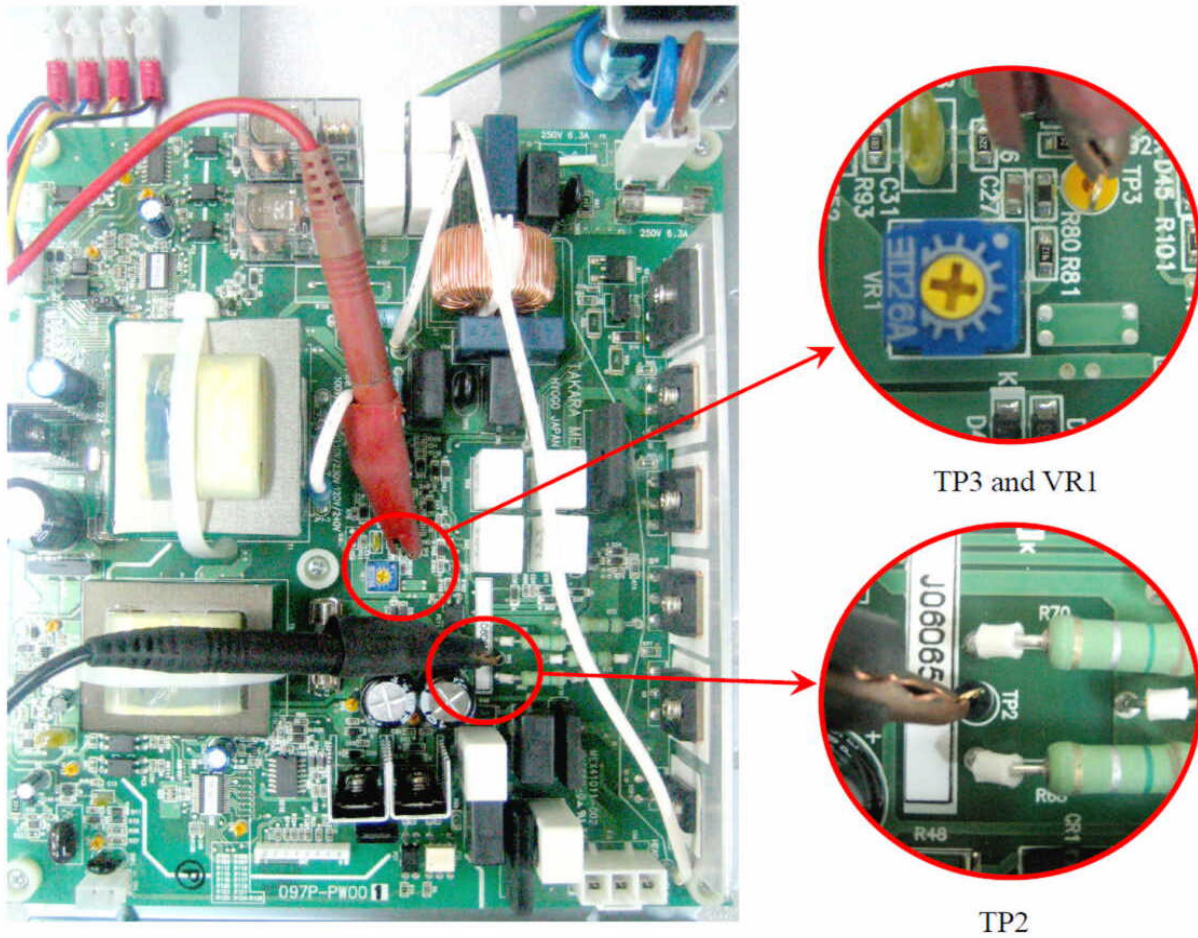

FIGURE 4B. TP2, TP3 and VR1 on the Power Generating PCB
3. Turn off the main switch. Open the front panel of the main controller and connect one lead of multimeter to "TP3" a wire ring test terminal on the power generating PCB. Connect the other lead of multimeter to "TP2" test terminal on the power generating PCB. (Refer to FIGURE 4B.)